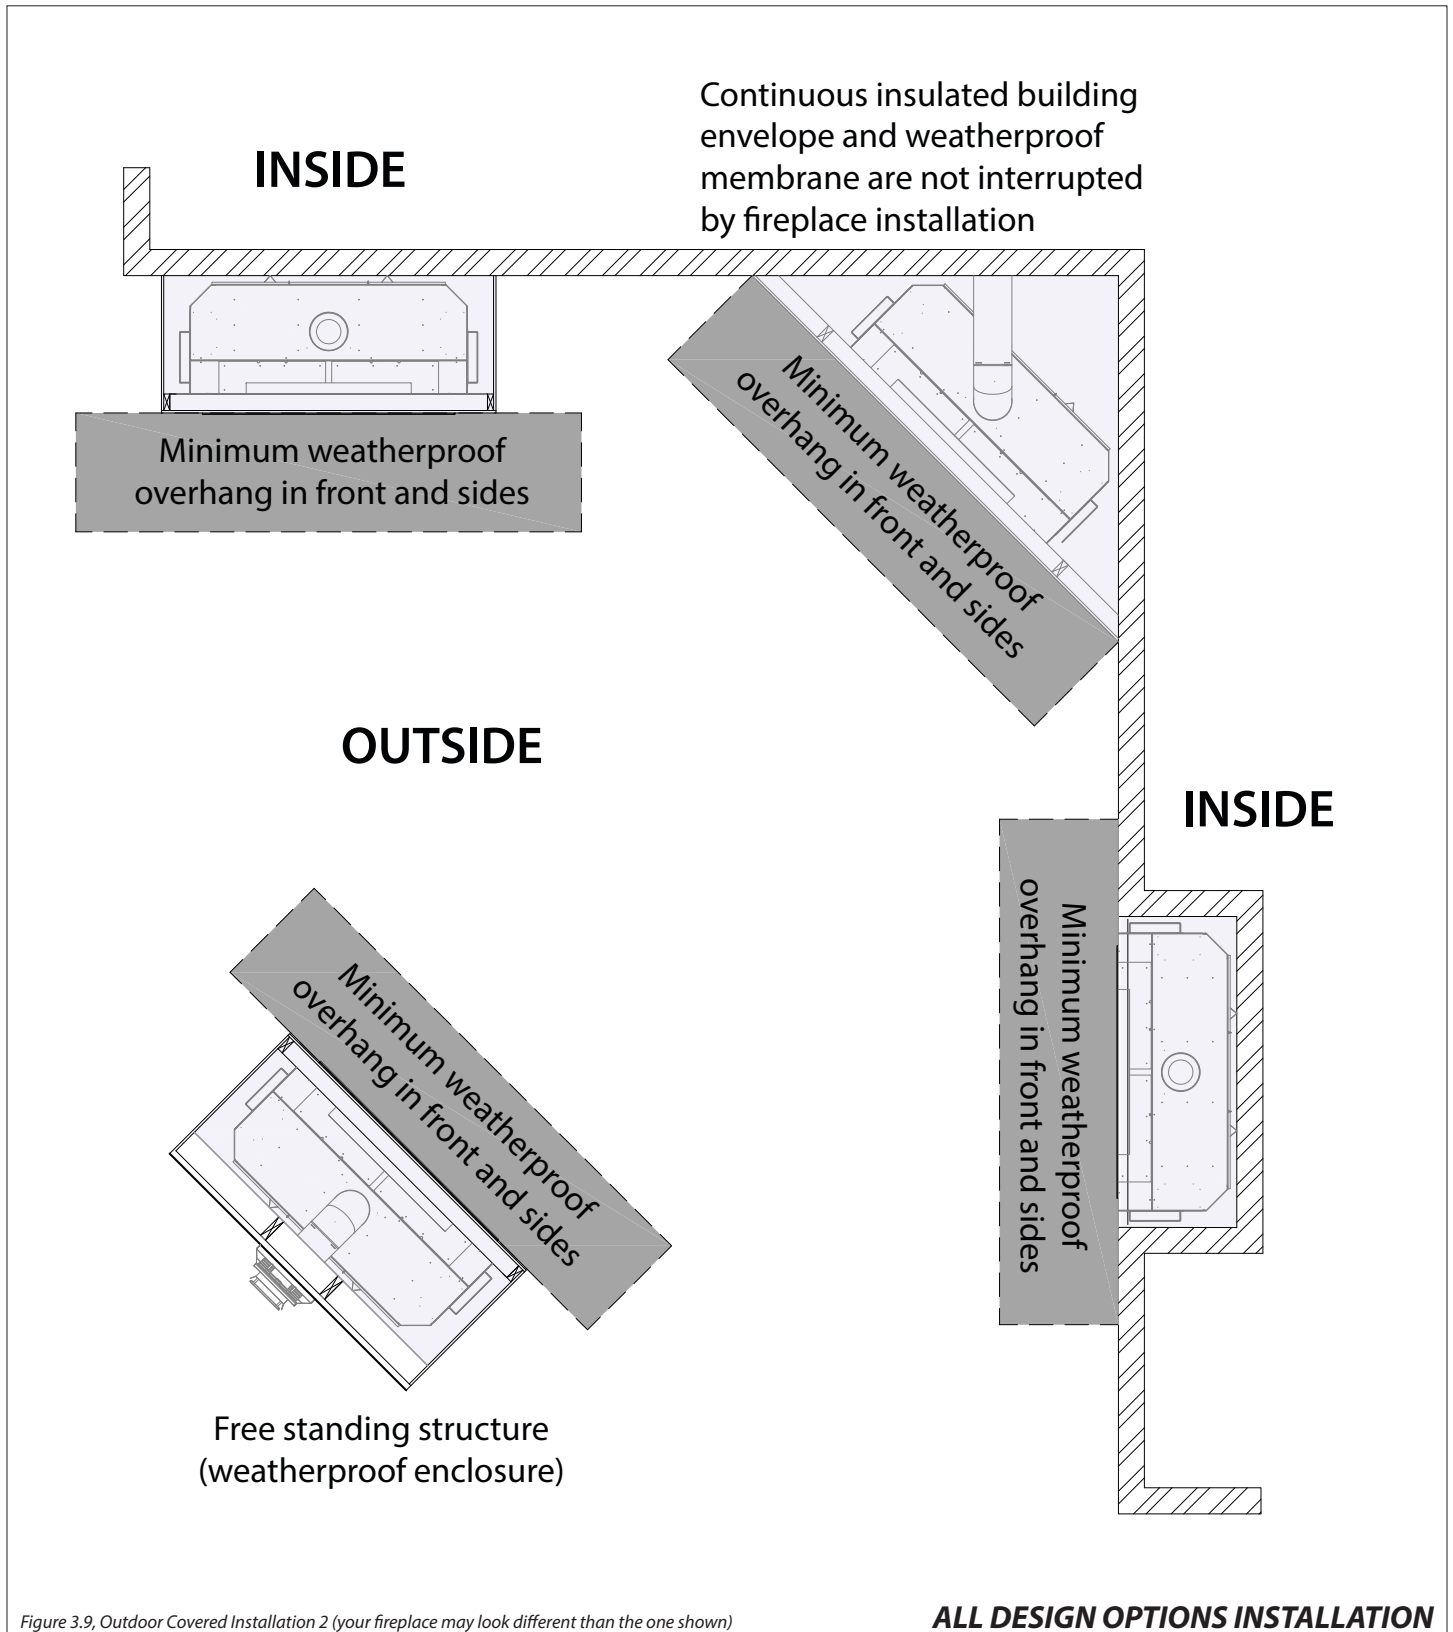

Figure 3.9, Outdoor Covered Installation 2 (your fireplace may look different than the one shown)
- The continuous insulated building envelope and weatherproof membrane are not to be interrupted by fireplace installation. See Figure 3.9 on the following page.